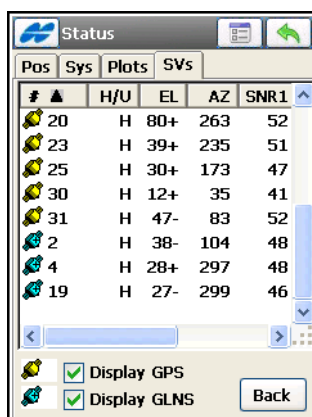

Figure 8-22. Status – SVs List
- **List** – toggles to the table (Figure 8-22) that displays the satellite parameters.